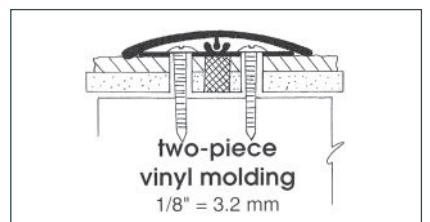

FIGURE 7
- Two-piece molding or heavy-duty batten strip and corners are available for non-standard thicknesses (Figure 7). See your FRP panel distributor for availability.